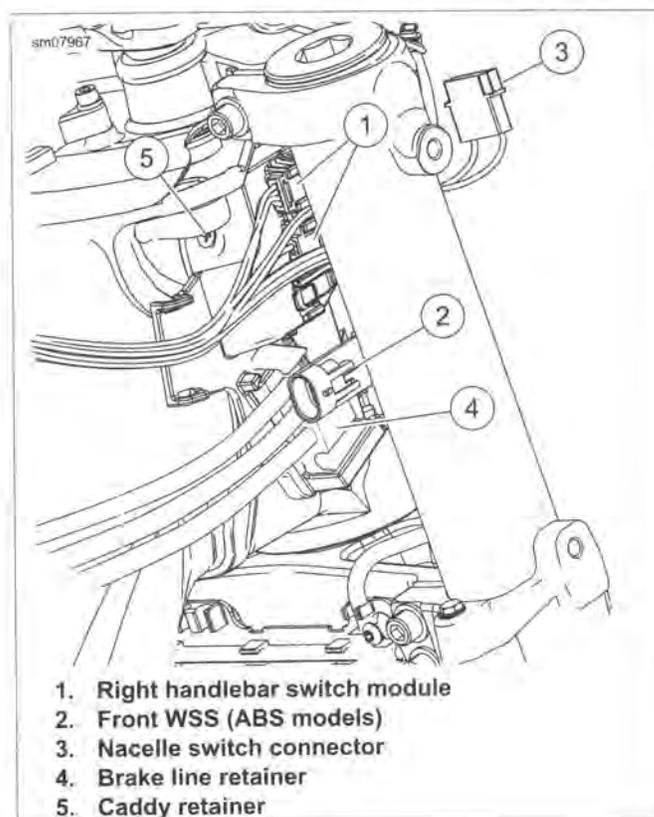

Figure 7-101. Right Side Connectors: Road King
4. See Figure 7-101. Separate connectors (1, 2) at right steering head caddy. Leave main harness connectors secured to caddy.
5. Remove brake line retainer (4). Leave lines captured in retainer.
6. Loosen caddy retainer screw (5). Remove retainer securing each steering head caddy.
8. Disconnect nacelle switch connectors (3).